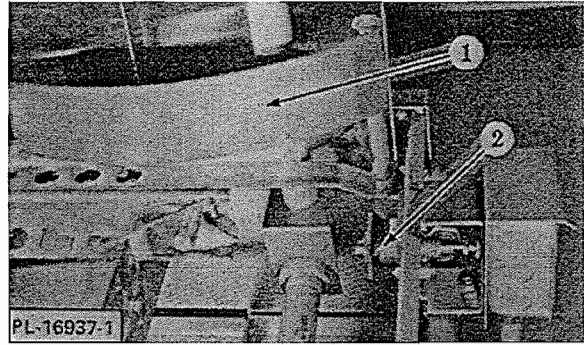

Fig. 11
1. Rinse lever (1, Fig. 11) not moving freely. **NOTE:** Turn machine off before checking lever for movement.
2. Improper plunger adjustment (2, Fig. 11) or micro switch not operating properly.